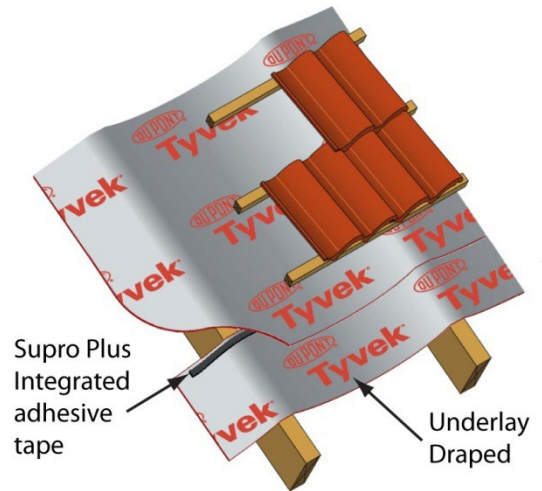

Figure 2
2. Cold roof - Non-ventilated & sealed draped (Figure 2)